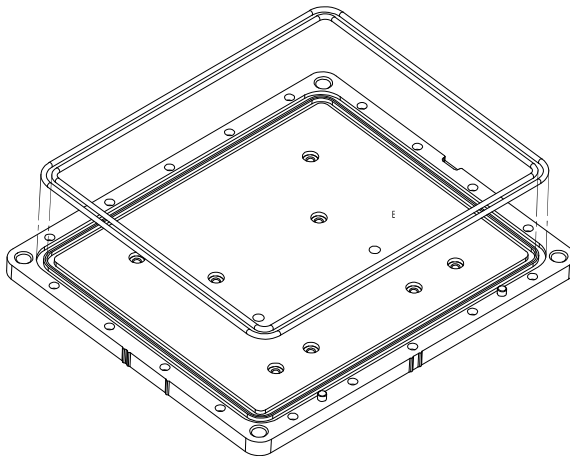

Figure 52: Install O-rings
6. Ensure the O-rings are in place. If they are not, as necessary, make sure the grooves of the enclosure base are clean and free of debris, using isopropyl alcohol. As shown in *Figure 52*, install the outer environmental and inner EMI O-rings in the enclosure base, being careful not to stretch or twist them. O-rings must remain flat within the grooves during the remainder of the assembly procedure.